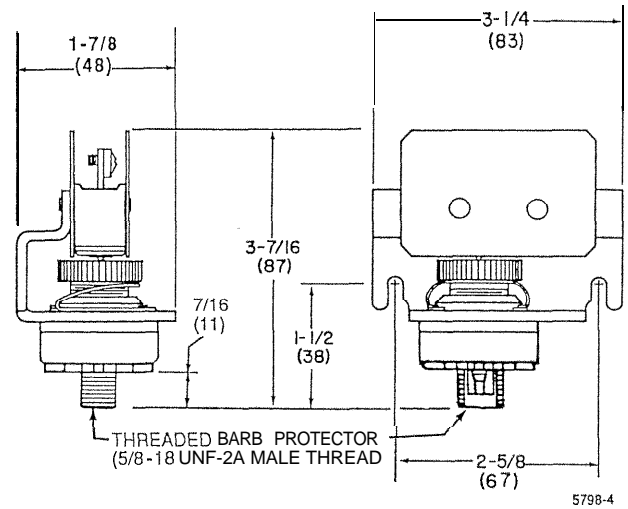

Fig. 2. P658B and C Switches Approximate Mounting Dimensions in Inches (Millimeters).
2. Mount P658B and C using two No. 8 screws through vertical mounting slots on 2-5/8 in. (67 mm) centers (Fig. 2).